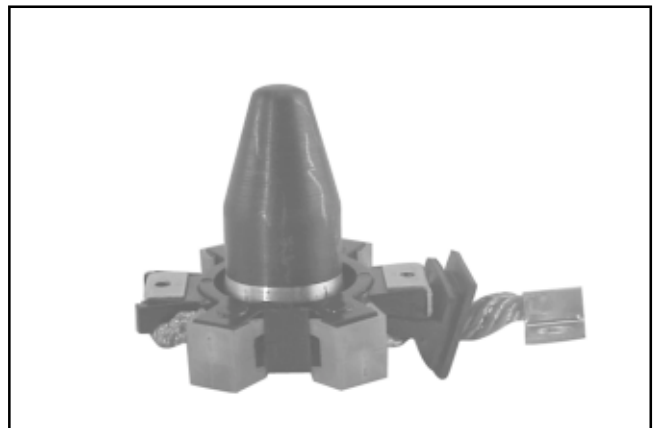

Figure 8-65. Brush Installation Tool with Extension.
- Install the brush springs and snap on the four retainer caps. See Figure 8-65.